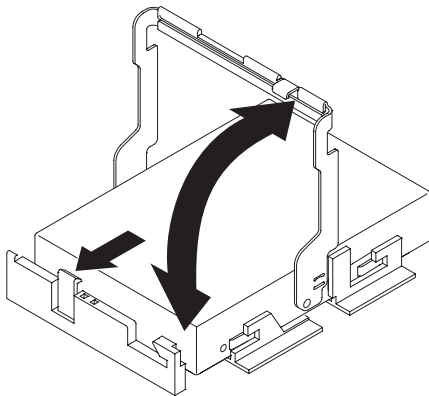

Figure 54. Raising the drive handle
1. Raise the drive handle to the vertical position, as shown in Figure 54.